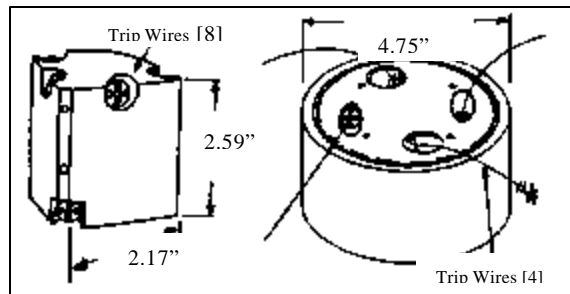
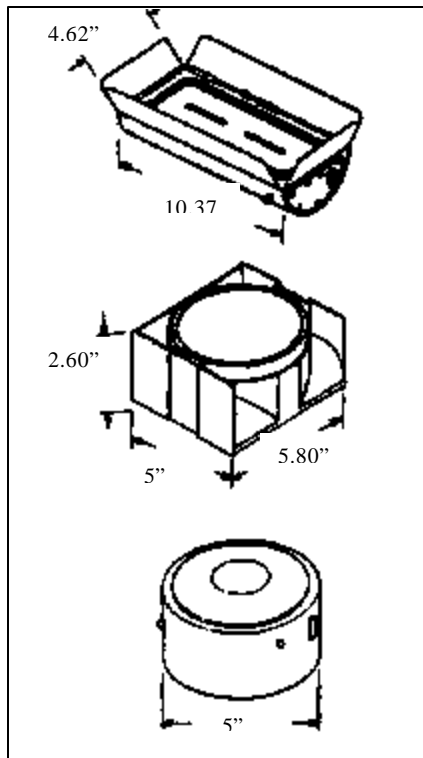

Figure 31. APERS area-denial submunitions (FASCAM).
Figure 37. AT area-denial submunitions (FASCAM)
- (2) Submunitions are used to destroy an enemy in place (impact) or to slow or prevent enemy movement away from or through an area (area denial). Impact submunitions go off when they hit the ground. Area-denial submunitions, including the family of scatterable mines (FASCAM), have a limited active life and self-destruct after their active life has expired. The FASCAMs shown in Figure 31 are delivered into areas for use as mines. When they hit the ground, trip wires kick out up to 20 feet from the mine. All area-denial submunitions use antidisturbance fuzing as a backup. The self-destruct time can vary from a couple of hours to as long as several days.
- (7) AT area-denial submunitions (Figure 37) can be delivered by aircraft, artillery, and even some engineer vehicles. These FASCAMs all have magnetic fuzing. They will function when they receive a signal from metallic objects. These submunitions, similar to the APERS area-denial submunitions that are shown in Figure 31, also have antidisturbance and self-destruct fuzing. AT and APERS area denial mines are usually found deployed together.